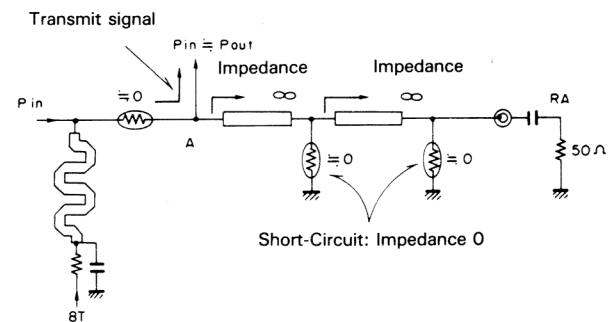

Fig. 4 Equivalent circuit for transmit
**Fig. 4** shows the equivalent circuit for the transmit section.